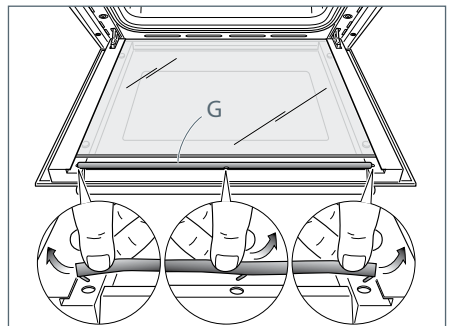

Fig.36d
- Remove the seal "G" by unhooking the three fixing hooks (Fig. 36d).